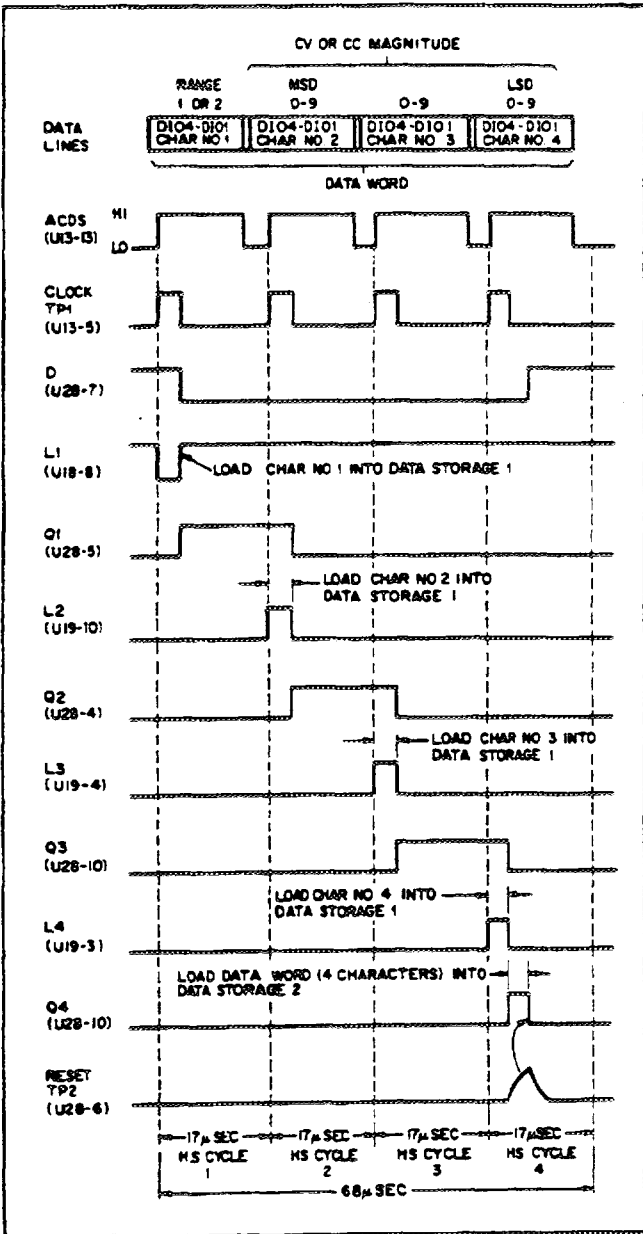

Figure A-7. Data Word Transfer, Timing Diagram
characters are transferred from the bus one at a time with the range character transferred first followed by the three magnitude characters. Each character, bits  $\overline{D104}$  (MSB) -  $\overline{D101}$  (LSB), is transferred into data storage 1 during the accompanying 3-wire handshake cycle. After the fourth character is transferred into data storage 1, all four characters (data word) are automatically loaded into the data storage 2 latches. The timing sequence for the data word transfer is provided in Figure A-7.
**A-69** The leading edge of each ACDS pulse generates a clock pulse which gates the data storage sequencer. Initially, the data shift register (U28) in the data storage sequencer is reset and the data input (U28-7) is a HI level. The timing sequence that occurs during the transfer of a data word is described below (Refer to Figure A-7).